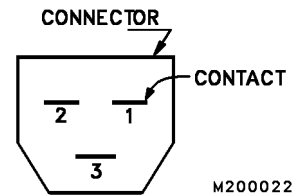

FIGURE 6-14. INCLINOMETER SIDE CONNECTOR VIEW
2. Connect inclinometer wiring to the truck wiring harness. (Figure 6-14)